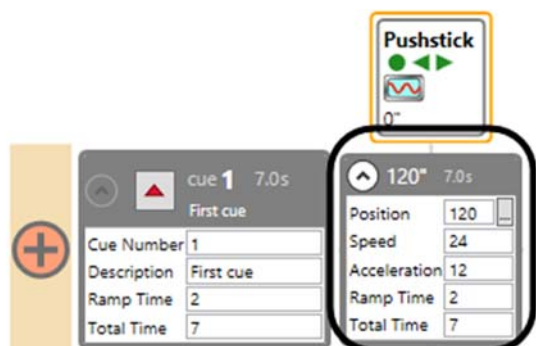

Figure 211
2. After you press the “+” button, a movement will appear displaying the parameters for the motor in the cue (Figure 211).